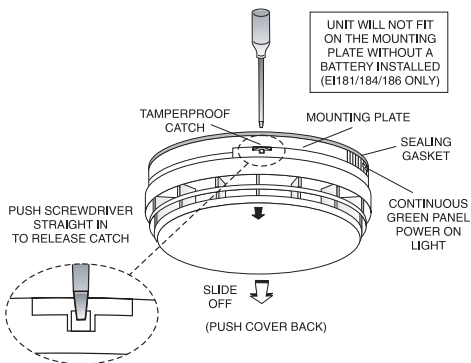

Figure 1a
- REMOVE UNIT FROM MOUNTING PLATE BY RELEASING CATCH AS SHOWN IN FIG 1a.
1. Remove the mounting plate from the Smoke/Heat Alarm by releasing the tamper-proof catch with a small screwdriver as shown in figure 1a and sliding the alarm from the plate.